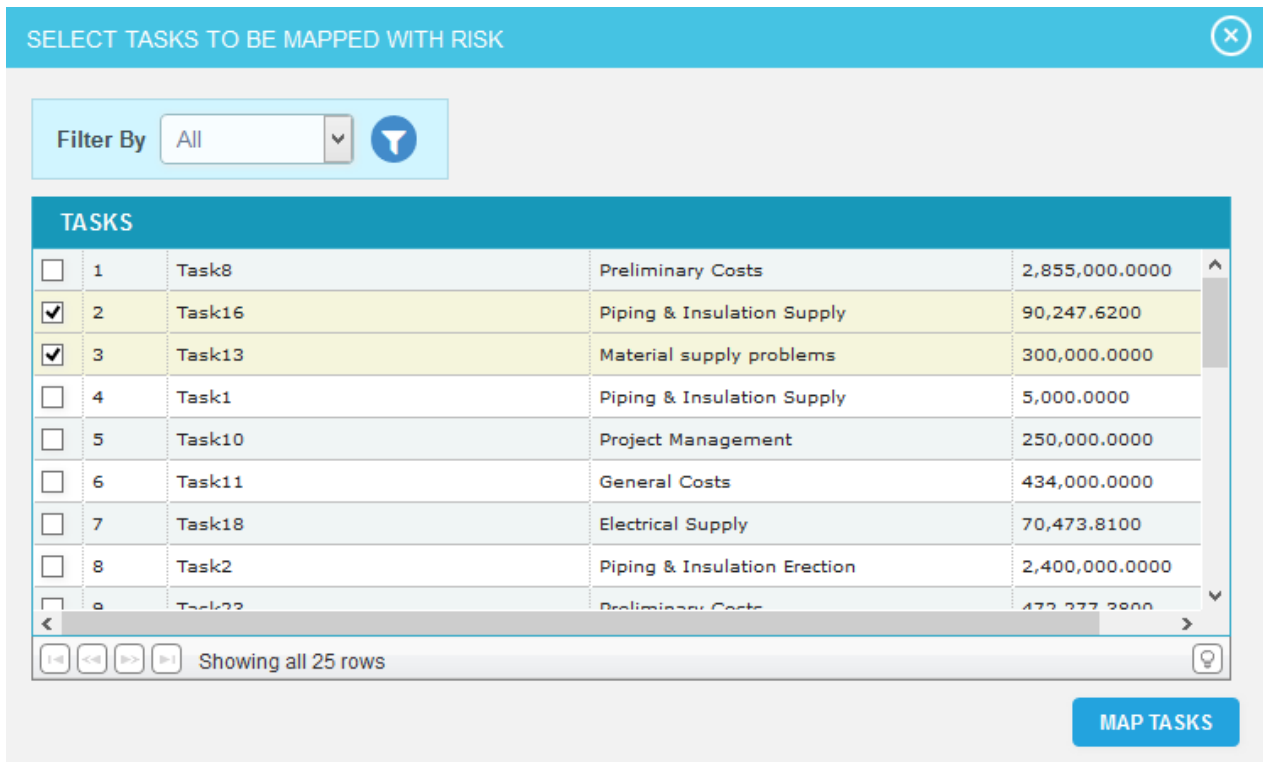

Figure 2.42
3. Tick checkboxes corresponding to the tasks to assign the selected risk. (Figure 2.42)
4. Click on the **MAP TASKS** button to map the tasks. (Figure 2.42)